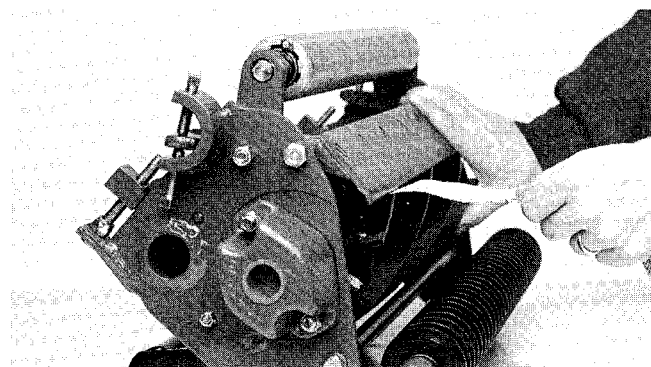

Figure 2
3. After the adjustment is accomplished, check to see if reel can pinch paper when inserted from the front and cut paper when inserted at a right angle (Fig. 2). It should be possible to cut paper with minimum contact between the bedknife and the reel blades. Should excessive reel drag be evident it will be necessary to either back lap or regrind the cutting unit to achieve the sharp edges needed for precision cutting (see Toro reel sharpening manual).